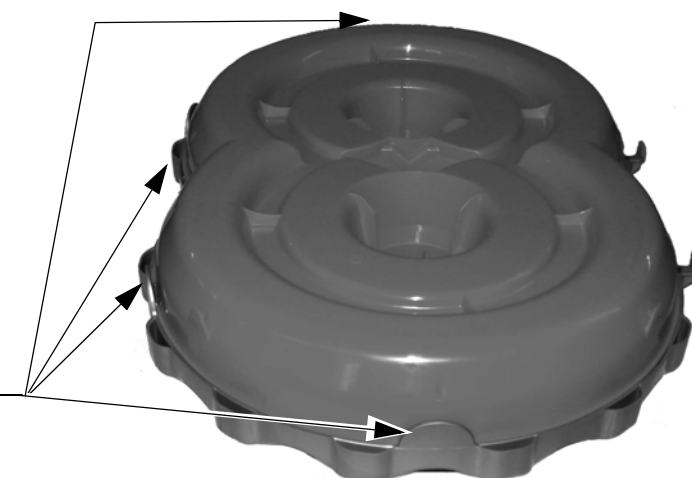

Figure 37. Install Feeder pan
3. All four Pans snapped in properly. **Figure 37. on page 25**